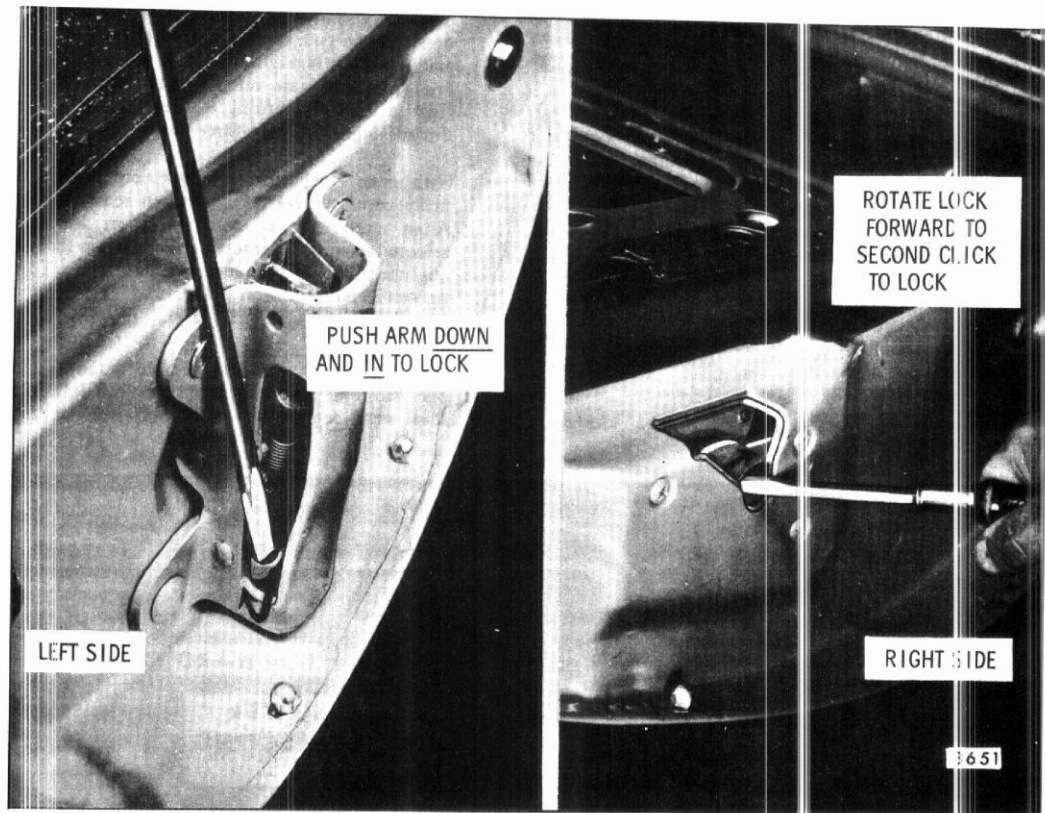

Fig. 9-24-Dual Acting Tail Gate Right and Left Upper Lock Manual Locking
1. With tail gate open in a gate position, manually lock upper right and left locks as shown in Figure 9-24.
4. Manually lock upper right and left locks as shown in Figure 9-24.
8. Manually lock right and left upper locks as shown in Figure 9-24.
5. With tail gate open in a gate position, manually lock right and left upper locks as shown in Figure 9-24.
**NOTE:** To raise electrically operated tail gate windows, with the gate open to the gate position, it is first necessary to manually lock both upper locks as shown in Figure 9-24.